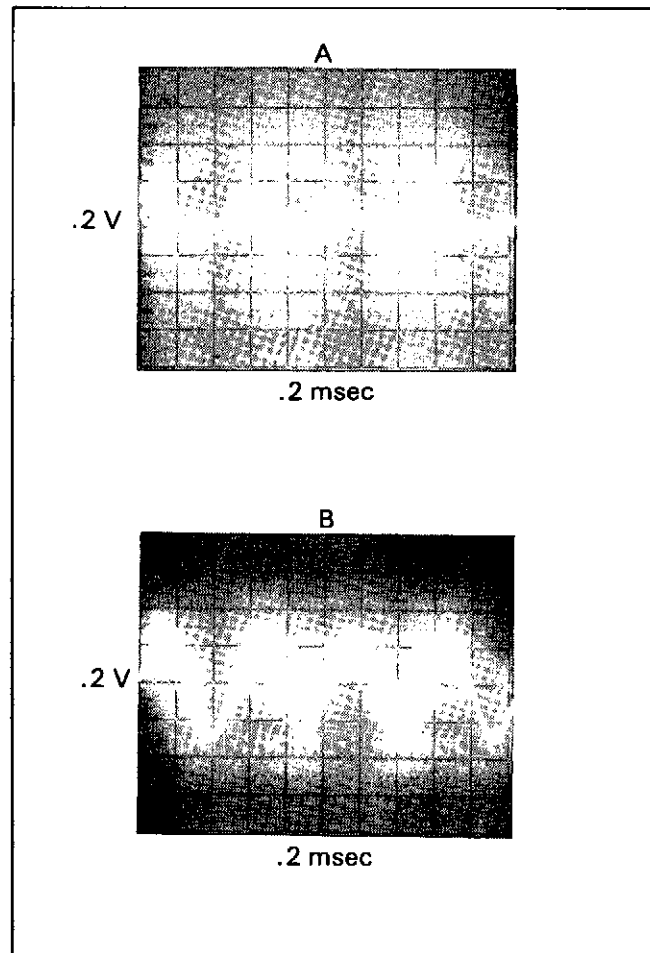

Figure 8-E-1. RMS Converter Waveforms.
f. Using an oscilloscope, measure for the signal shown in Figure 8-E-1A at TP16. Make sure the signal is stable (not jumpy).
- h. If the signal at TP16 is good, check for the signal shown in Figure 8-E-1B at TP17.